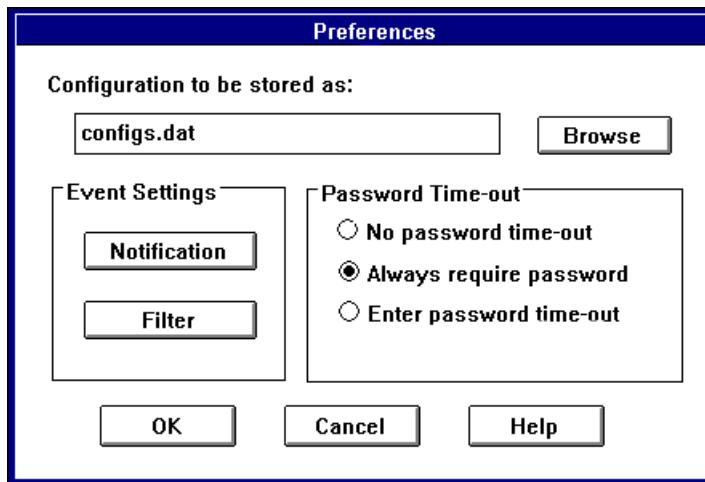

Figure 7-8. Preferences Dialog Box
- 1 Click the button. The Preferences dialog box appears, as shown in Figure 7-8.